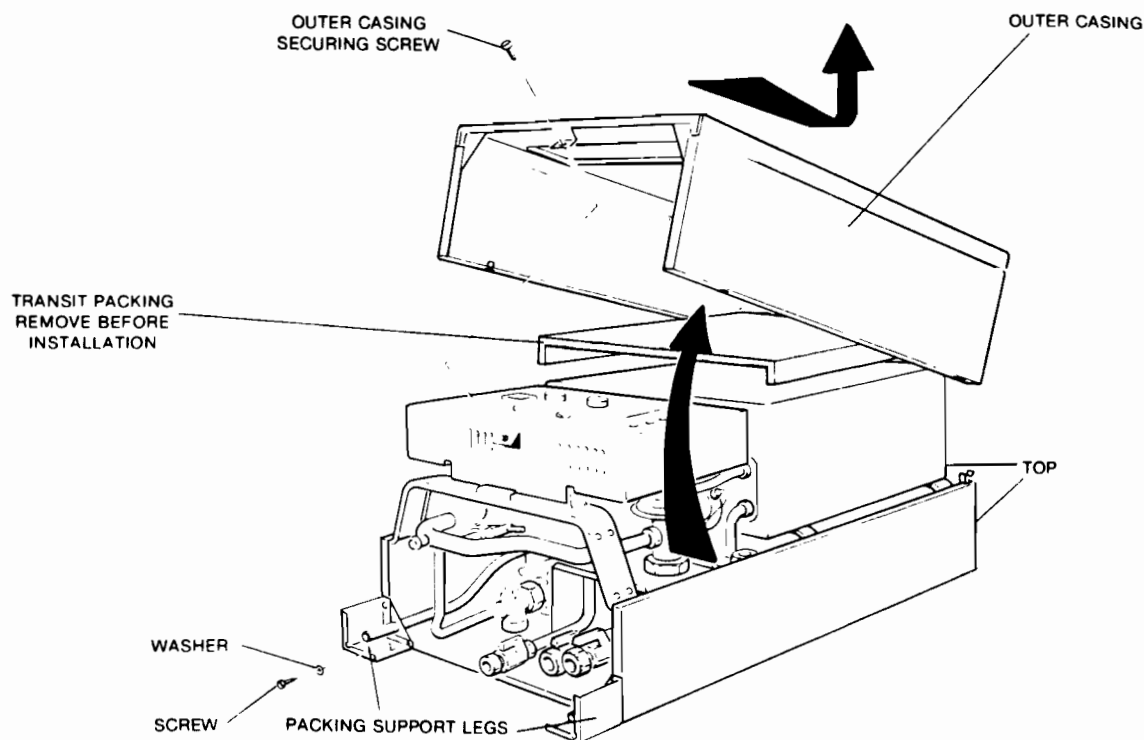

FIG. 12 REMOVE OUTER CASING
b) Remove the outer casing as follows, undo the securing screw at the base of the outer casing, pull the base of the casing forward and lift off of the supporting top hooks. Place the casing safely to one side (see Fig. 12). There is a transit packing piece of cardboard under the casing, this must be removed before installation.